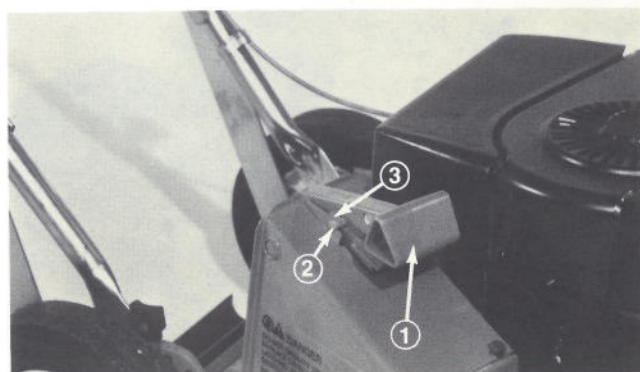

Figure 3
1. Insure mulching door handle on mower is fully forward and door is completely closed (Fig. 3).
Note: Latch pin must be in hook (Fig. 3).